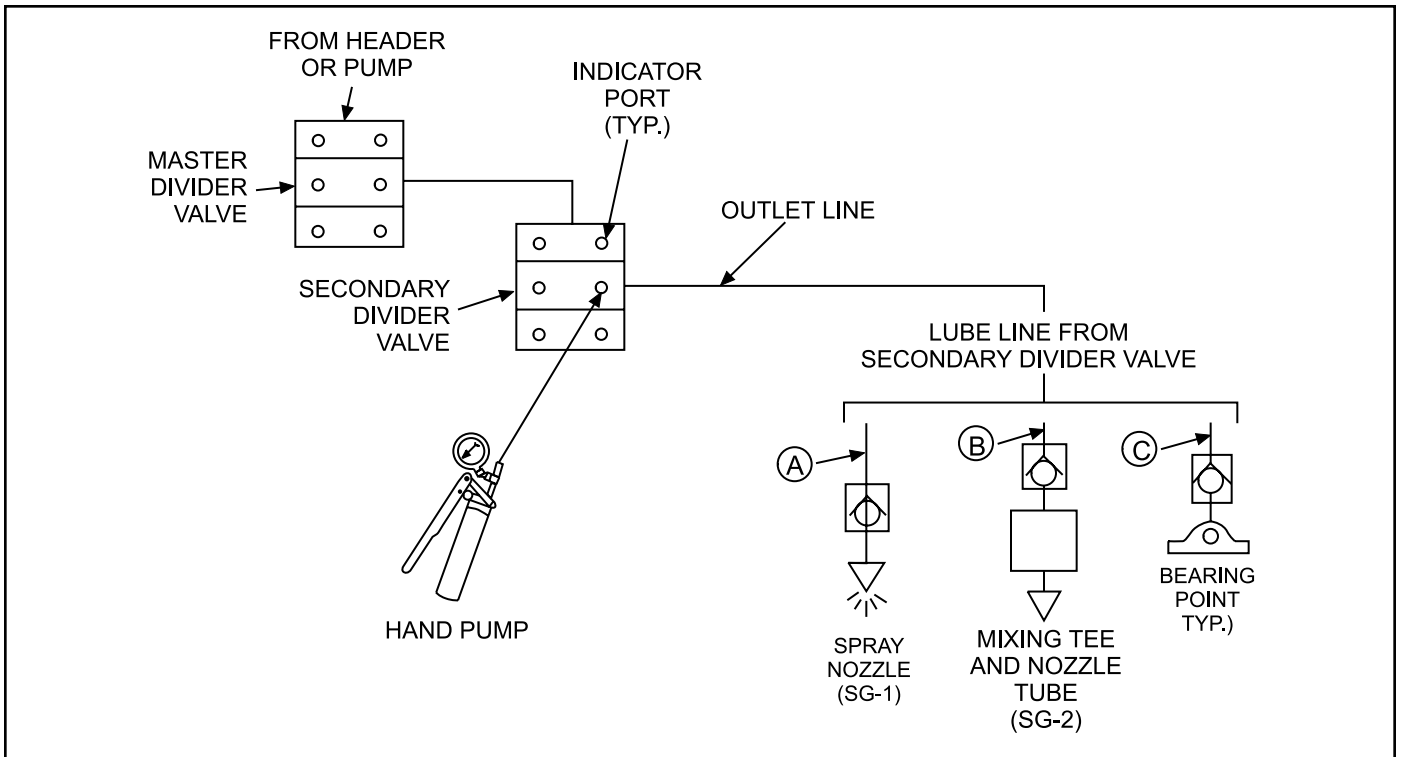

Figure 3-1. Filling Secondary Divider Valve Supply Tubes
3.2.3.1 Procedures for bleeding secondary divider valves are the same for both SG-1 and SG-2 systems. On many installations, a secondary divider valve is not used or is used to supply lube points other than those relating to the Spindl-Gard system. The first requirement in bleeding secondary divider valves is to fill all supply lines from the secondary divider valves to the lubrication point. Refer to Figure 3-1 during the following procedures:
- Remove lines at spray nozzle, mixing tee or bearing point (Points A, B or C, Figure 3-1), cycle pump and open zero-leak valves. As the divider valves cycle, check to see if oil is dispensed. If no fluid is dispensed, system is not completely bled or a component is not operating correctly.